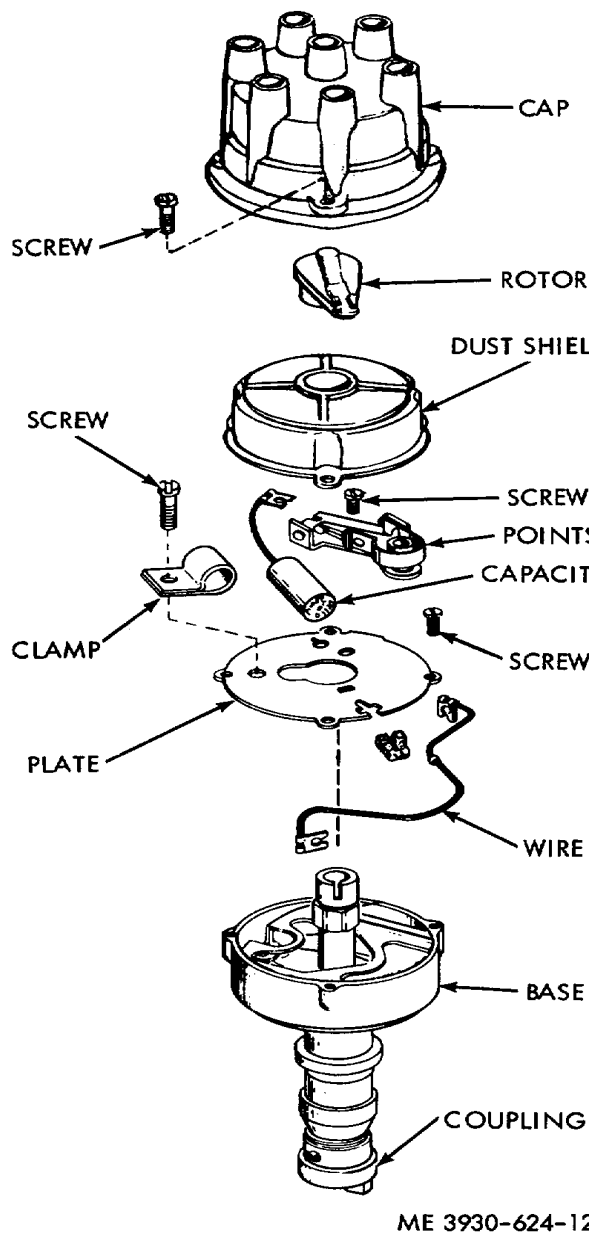

Figure 4-31. Distributor assembly.
(1) Remove spark plug leads from spark plugs and remove ignition coil lead from coil. Remove primary lead from coil.
(2) Remove capscrew and washers from distributor advance arm and lift distributor out of drive housing.
(3) Unfasten cap retainer screws and remove cap, rotor, and dust shield (fig. 4-31).